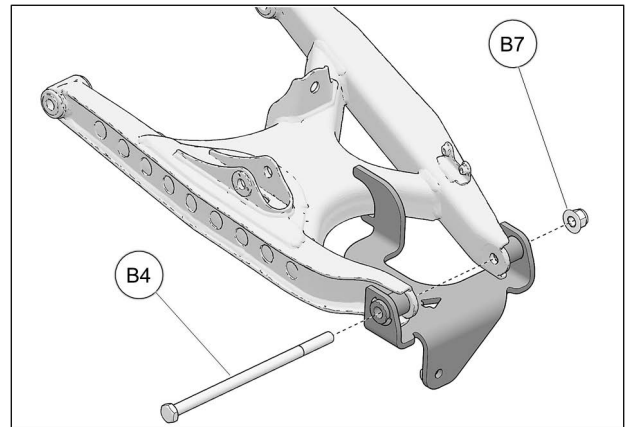

Fig. 7
- Insert new M12x240mm bolt (B4) through anchor bracket, suspension arm and wheel knuckle. Secure assembly with the provided M12 nut (B7). Torque to 90 Nm [66 lb•ft]. See Fig. 7